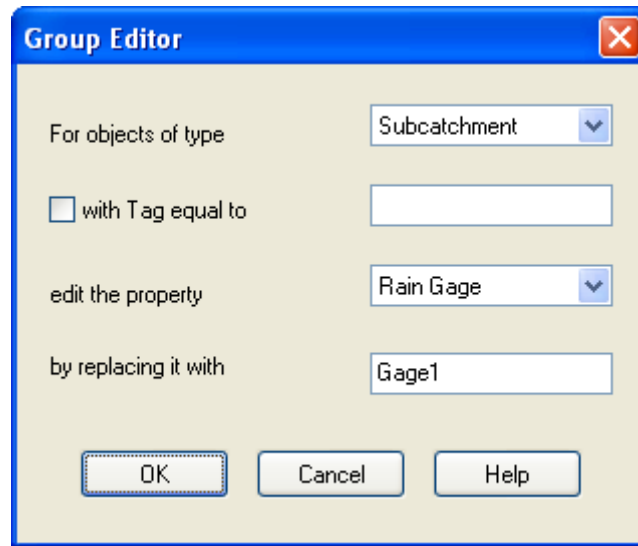

Figure 2-6. Group Editor dialog.
2. Then select **Edit >> Group Edit** to make a Group Editor dialog appear (see Figure 2-6).